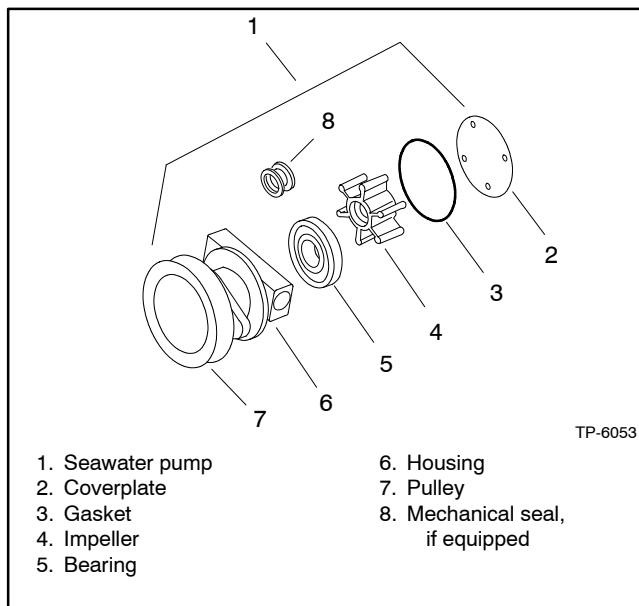

Figure 3-7 Seawater Pump, Typical
2. Remove the seawater pump coverplate. See Figure 3-7.